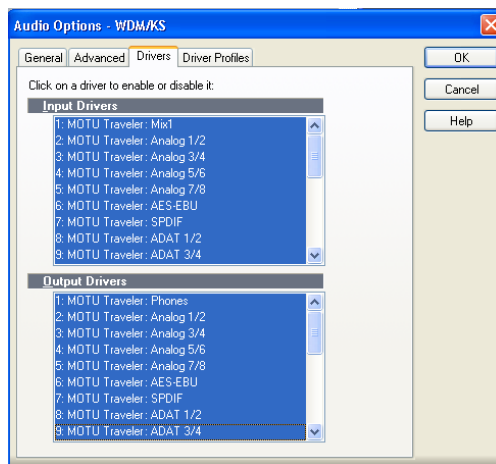

Figure 8-2: Activating the MOTU FireWire Audio WDM driver in SONAR by highlighting Traveler inputs and outputs.
- 3 Highlight the Traveler inputs and outputs that you wish to use and unhighlight the ones you don’t as shown in Figure 8-2.
Once you've enabled the Traveler inputs and outputs in the Drivers tab of the Audio Options window (Figure 8-2 on page 61), Traveler audio inputs and outputs will appear in Sonar's input/output menus, and you can set them up and use them as any standard audio input and output. If you don't see the optical inputs and/or outputs, check the MOTU FireWire Audio Console to make sure they are turned on and set to the format you need. If you don't plan to use the optical input or output, turn it off to conserve computer bandwidth.